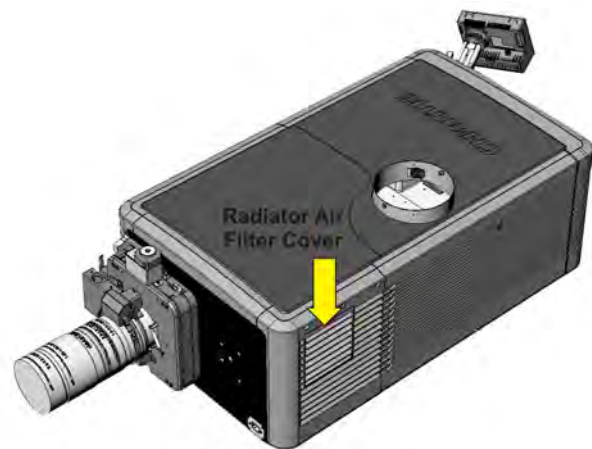

Figure 5-14 Radiator Air Filter Cover
1. Press down on the snap tab to remove the filter cover. **(Figure 5-14)**